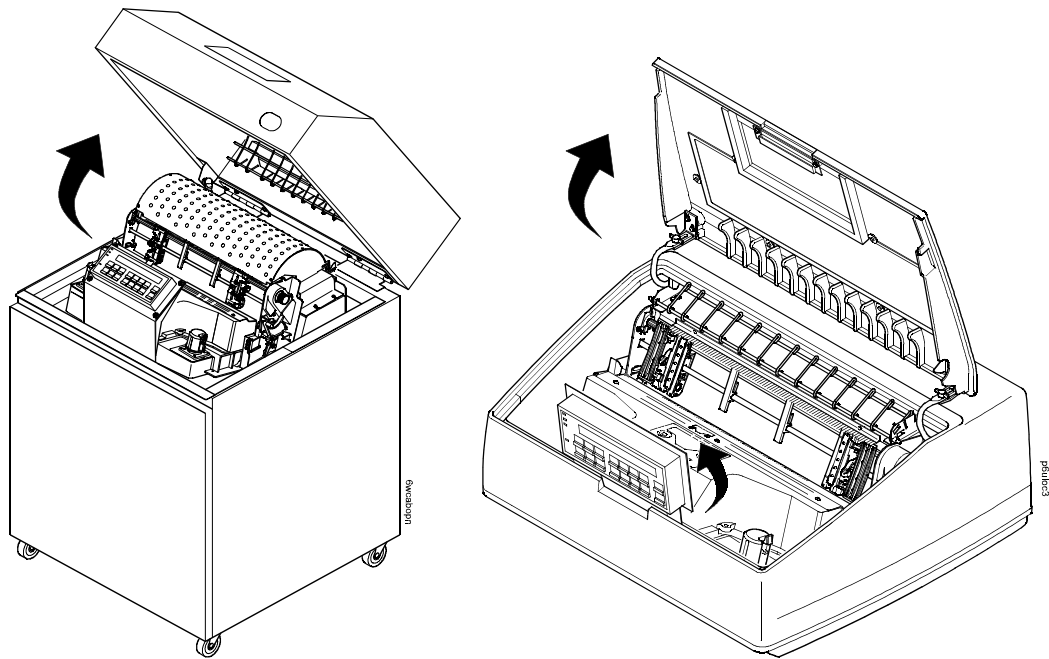

Figure 32. Opening the Printer Cover
2. Open the printer cover. See Figure 32.